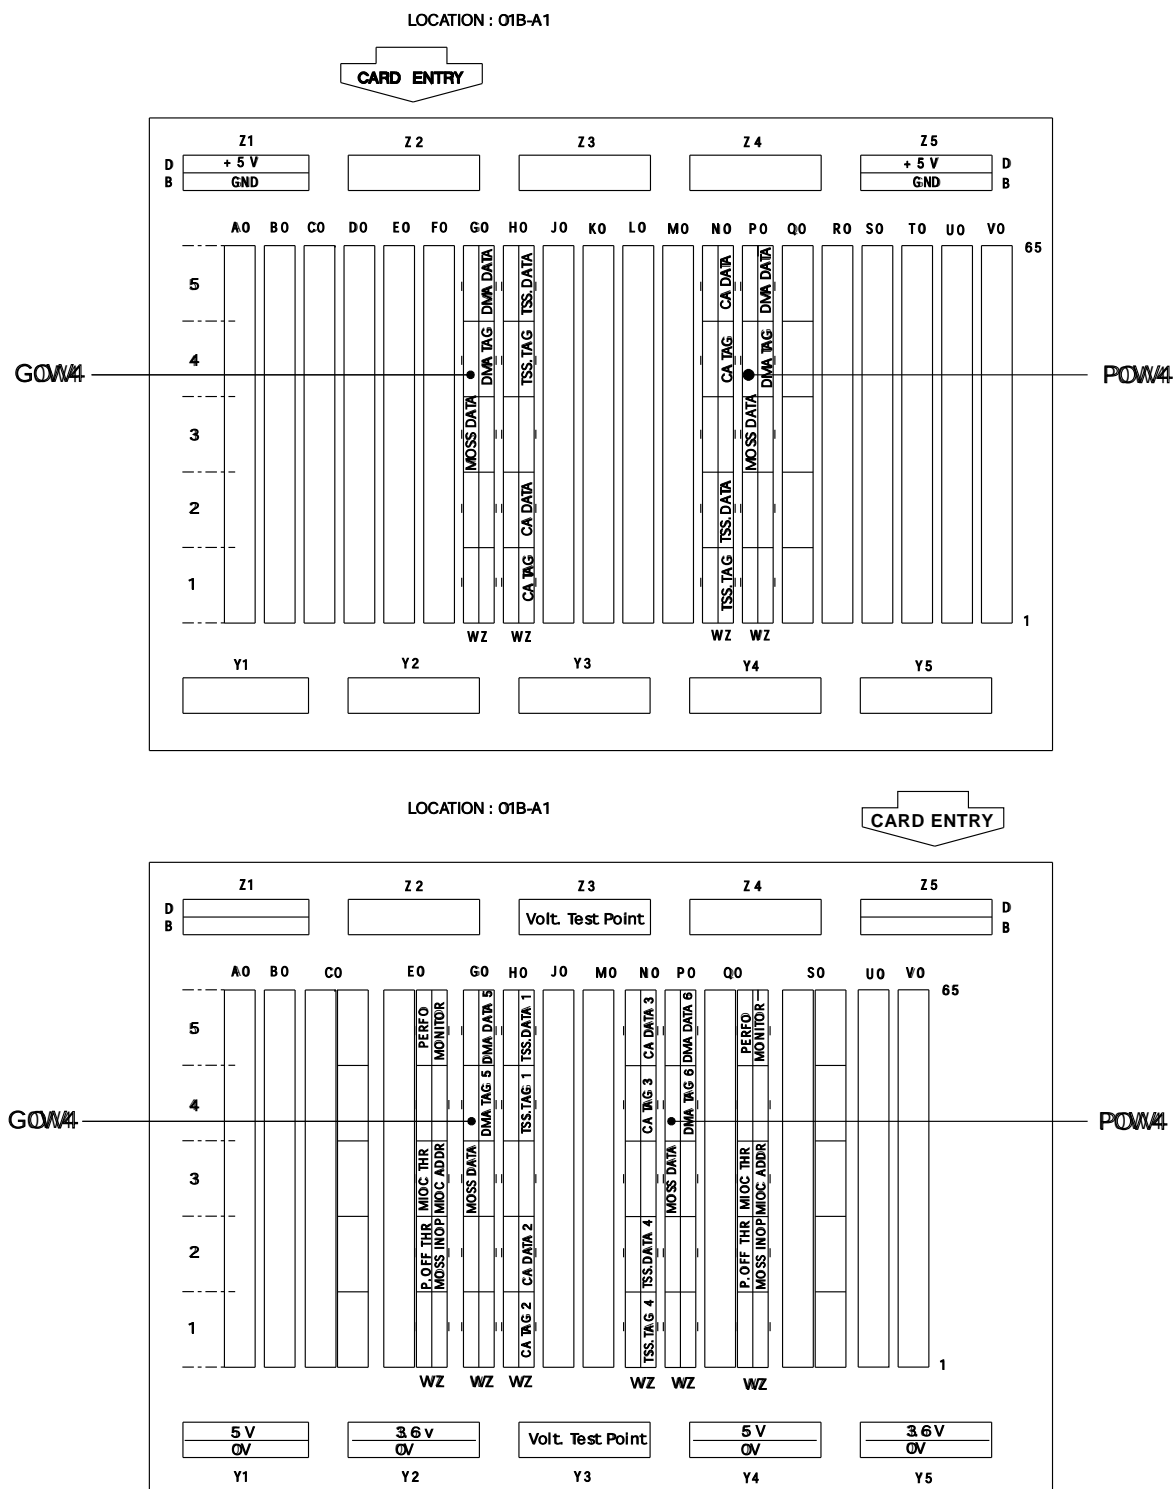

Figure 4-17. SACU Boards for 3745 Model 21A or 41A (Top) 31A or 61A (Bottom)
- Step 10. ____ Using the tool PN 71F9877 remove the dummy connectors in locations POW4 and GOW4 of the SACU board (see Figure 4-17 on page 4-18).